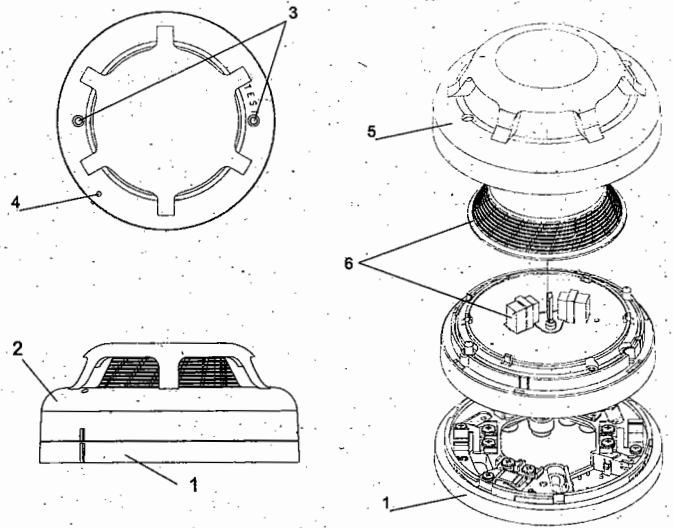

Fig. 1
The fire detector consists of a circuit board and a smoke detection chamber, mounted within the plastic body (Fig. 1, position 5). A flat pivot point screw (optional, Fig. 1, position 4) is provided to prevent unauthorized removal of the detector's head (Fig. 1, position 2). Two LEDs, (Fig. 1, position 3) illuminate to indicate fire condition state of the fire detector and offer 360 visibility.
4. Lock the detector head to the base by screwing the flat pivot point screw clockwise (Fig. 1, position 4), using a special screwdriver, ensure not to over tighten. To unlock the detector head unscrew the flat pivot point screw and release the fire detector head.
2. Wait for 1 minute to settle the power in the fire alarm line and exert influence on the fire detector by smoke generator or another device with aerosol simulator of smoke. Within 30 seconds the fire detector shall enter fire condition and the LEDs (Fig. 1, position 3) will illuminate.
3. Interrupt the power supply from the fire alarm line for a moment. The fire detector shall enter duty mode and the LEDs (Fig. 1, position 3) will be extinguished.